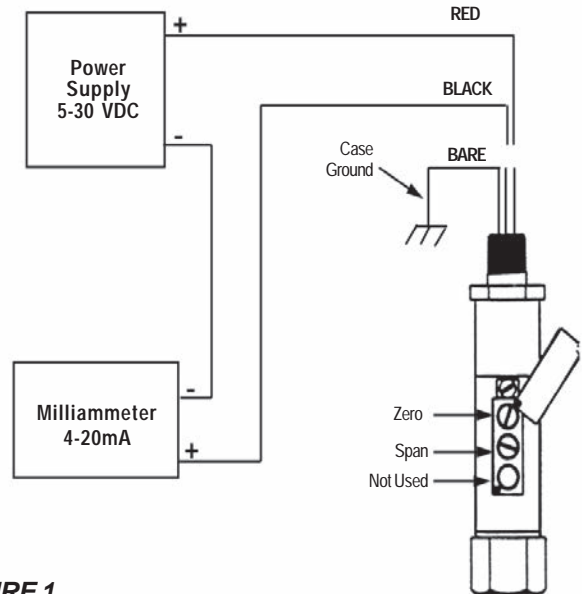

FIGURE 1
1. Connect the transmitter as shown in Figure 1. Case ground must be connected to earth ground to ensure EMI/RFI protection.